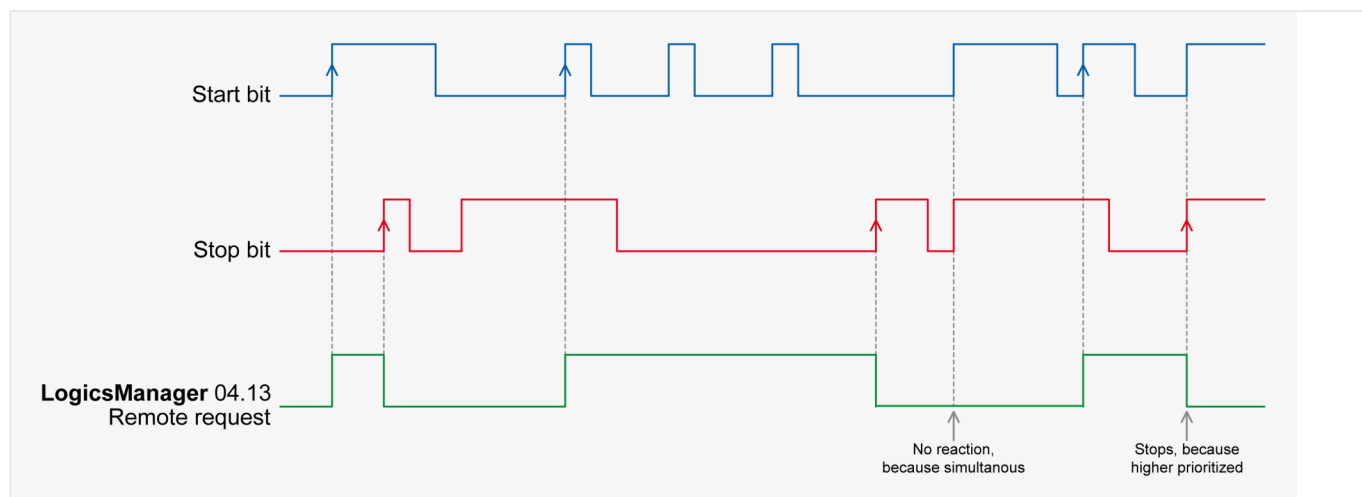

Fig. 291: Command variable
- The command variable "04.13 Remote request" changes to "0" (low) if the stop bit (ID 503, bit 1) changes from "0" to "1" (➡ Fig. 291).